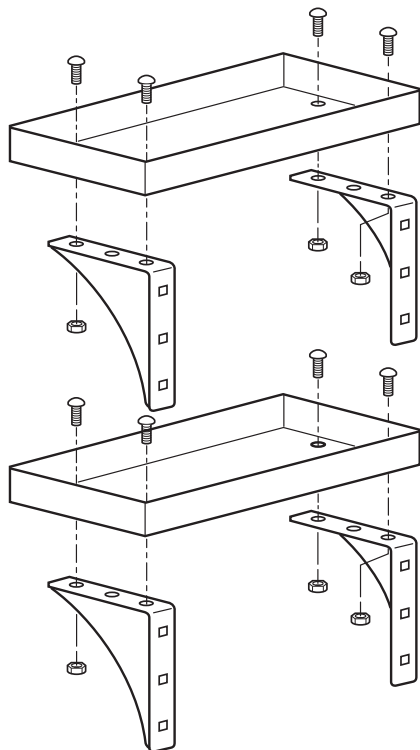

Figure 4-28
- Using eight M8 x 20 Round-Head Square-Neck Carriage Bolts (item #3) with M8 Flanged Nylock Hex Nuts (item #2), attach two Rear Trays (item #21) to Rear Tray Mounting Brackets (item #20) as shown in Figure 4-28. **Do not fully tighten nuts at this time.**